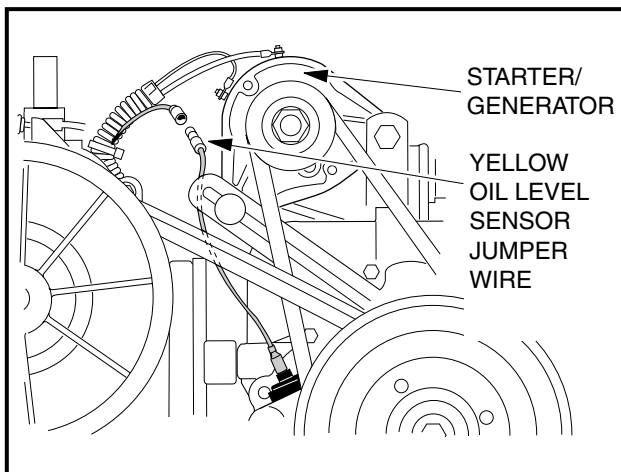

Figure 16a-20 Oil Level Sensor Jumper Wire
- 5.14. Disconnect the engine kill switch wire (18-gauge white/black) from the bullet connector at the lower right front of the engine (**Figure 16a-24, Page 16a-14**).